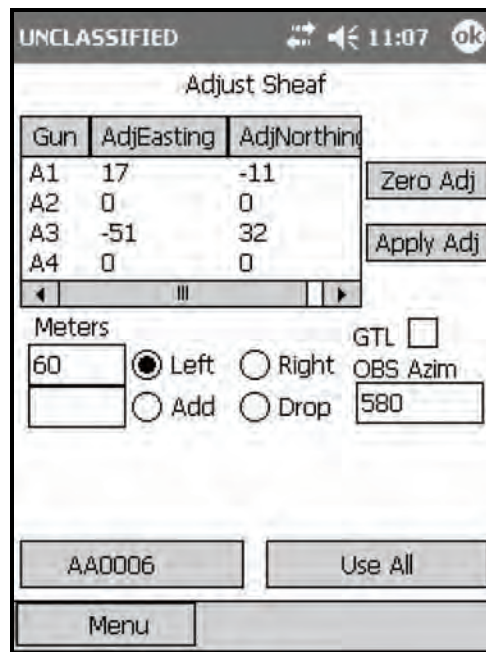

Figure 18-41. Registration: Adjust Sheaf screen.
- (26) Select the <Target> button.
- (27) The <Target> screen displays.
- (28) Select Adj Sheaf.
- (29) The Adjust Sheaf screen (Figure 18-41) displays.